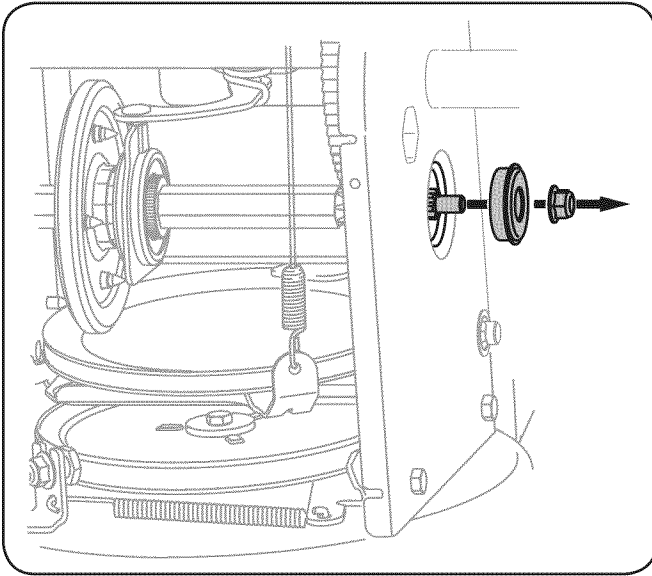

Figure 8-9
- Carefully remove the hex nut which secures the hex shaft to the snow thrower frame and lightly tap the shaft's end to dislodge the ball bearing from the right side of the frame. See Fig. 8-9.